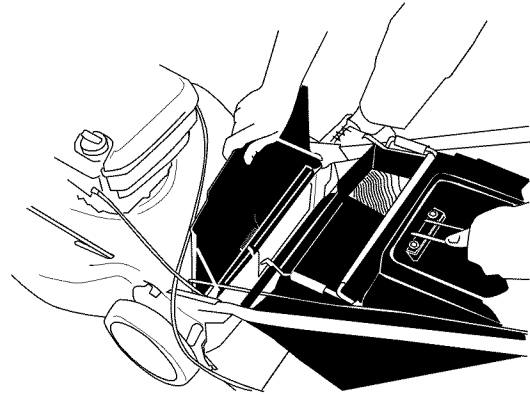

Figure 10
- Lift the rear discharge door and hang the grass bag on the mower. See Figure 10.